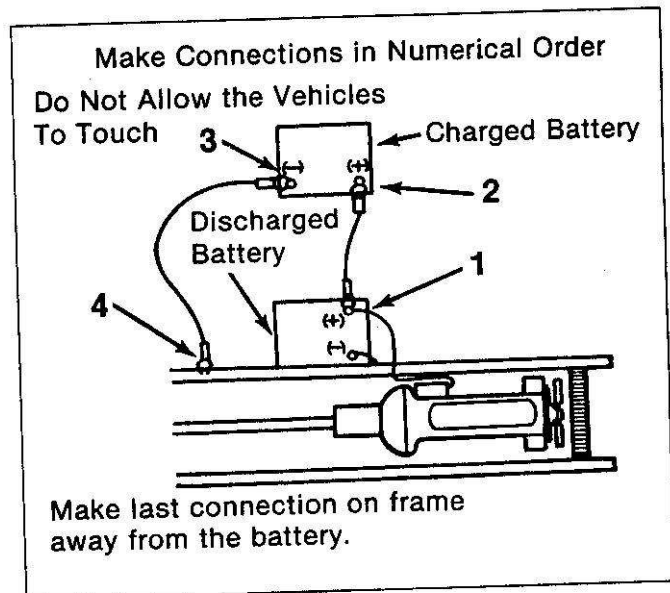

Figure 6. Jump Starting Connections
Because of the extra torque needed to start many diesel engines, diesel powered vehicles often have more than one battery. While it is possible to use the procedure described here to jump start a single-battery vehicle from a vehicle with more than one battery, the opposite may not be true. For example, at low temperature it may not be possible to start a diesel engine. Never connect "+" (red) to "-" (black), or "-" to "+" (figure 6).
5. Connect the first jumper cable from positive "+" (red) terminal on one battery to the "+" (red) terminal on the other battery. Never connect "+" (red) to "-" (black), or "-" to "+" (figure 6).
6. Connect one end of the second cable to the grounded negative "-" (black) terminal of the good (charged) battery (figure 6).
Do not touch hot manifolds as they can cause severe burns. If hot or moving parts can be avoided, the **MOUNTING BRACKETS** for the generator, or the air conditioning compressor, generally make a good point for this final ground attachment point. Take care that the jumper cable does not contact moving parts on or near the generator or compressor (figure 6).